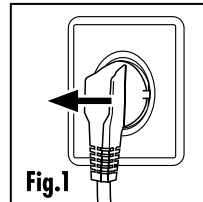
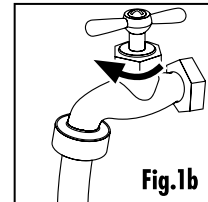

Fig.1
Fig.1b
Turn off the water supply and pull out electricity plug (Fig.1) after each wash. Open the washer door to prevent formation of moisture and odours. If the washing machine is left idle for a long period, turn off water supply (Fig.1b) drain the water in the machine and replace the drain hose.
1. Push a flat blade screwdriver into the slot on the filter cover and pull it open, do not use excessive force (Fig 1).